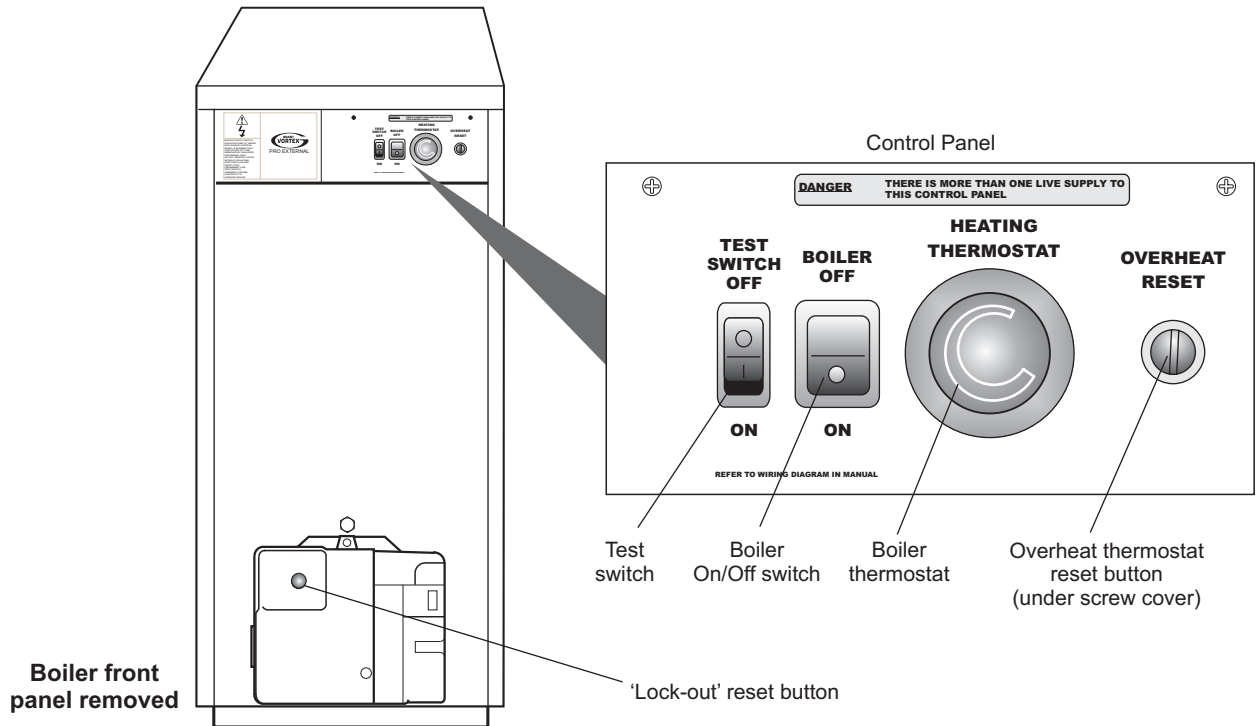

Fig. 22
Refer to Fig. 22 for boiler controls
- 4 Connect a combined vent manifold and pressure gauge to the pressure gauge connection port on the oil pump. See Fig. 22. Open the vent screw on your vent manifold to vent the supply while the pump is running.